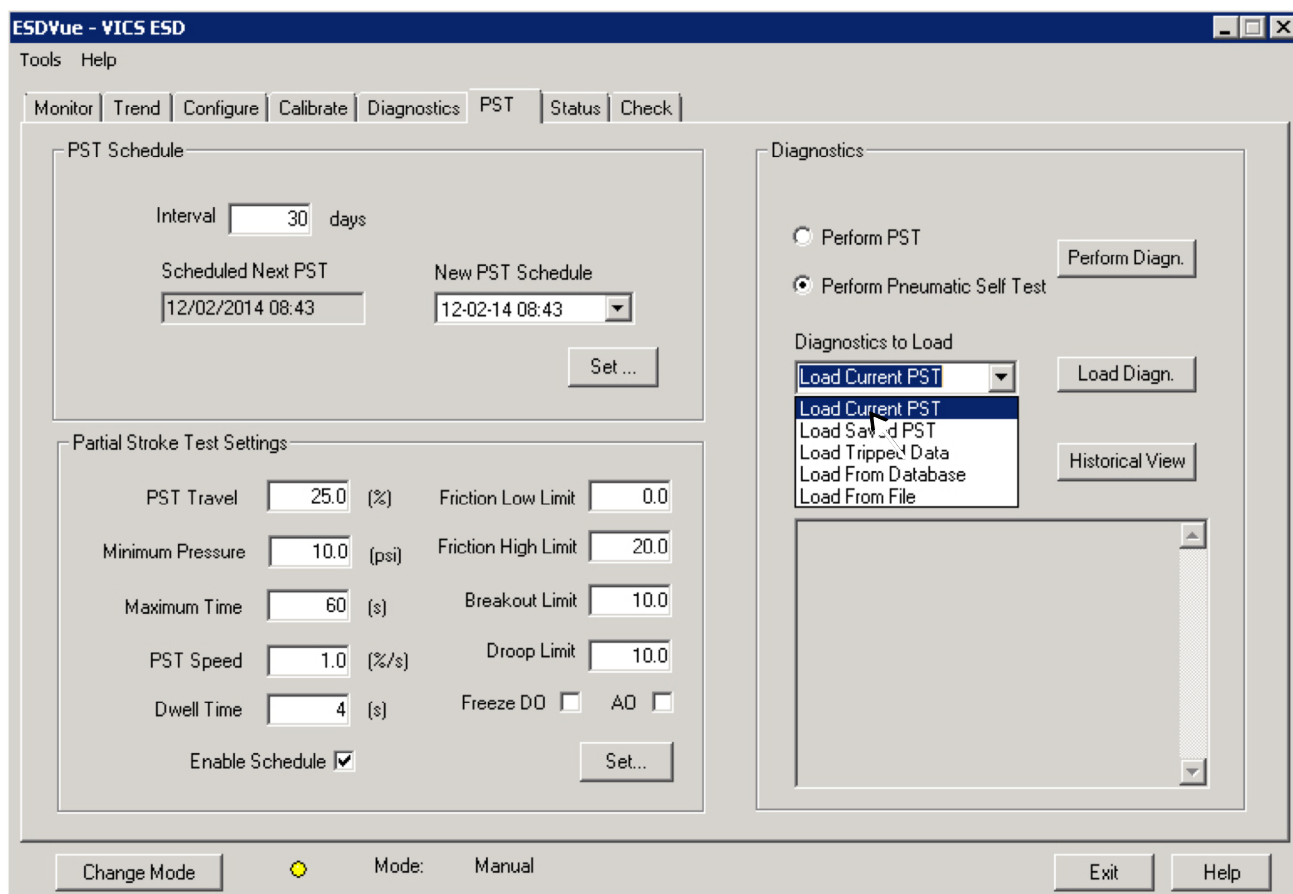

Figure 282 - Selecting Data to Load
1. Scroll through the *Diagnostics to Load* drop down list and click **Load From Database** (*Figure 282*).